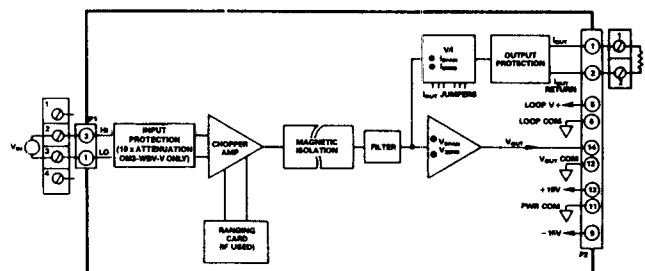

Figure 2.1.11.1 OM3-WBV-MV and OM3-WBV-V Functional Block Diagram
1. Connect model OM3-WBV-MV (OM3-WBV-V) as shown in Figure 2.1.11.1 with $R_L = 250\Omega$.